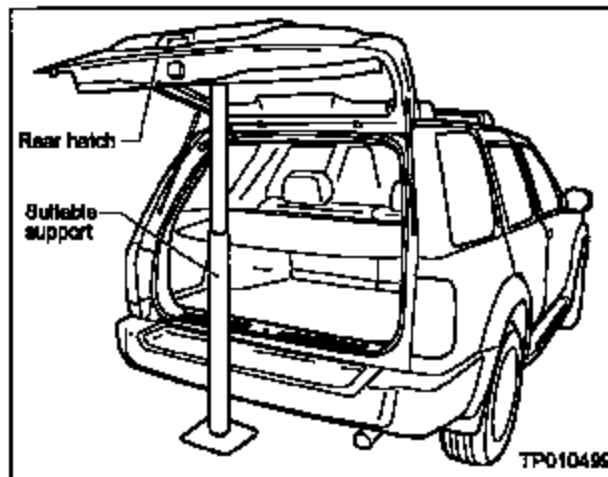

Figure 2
- Make sure the rear hatch door is open and fully supported with a suitable device (see Figure 2) before proceeding with the following steps.